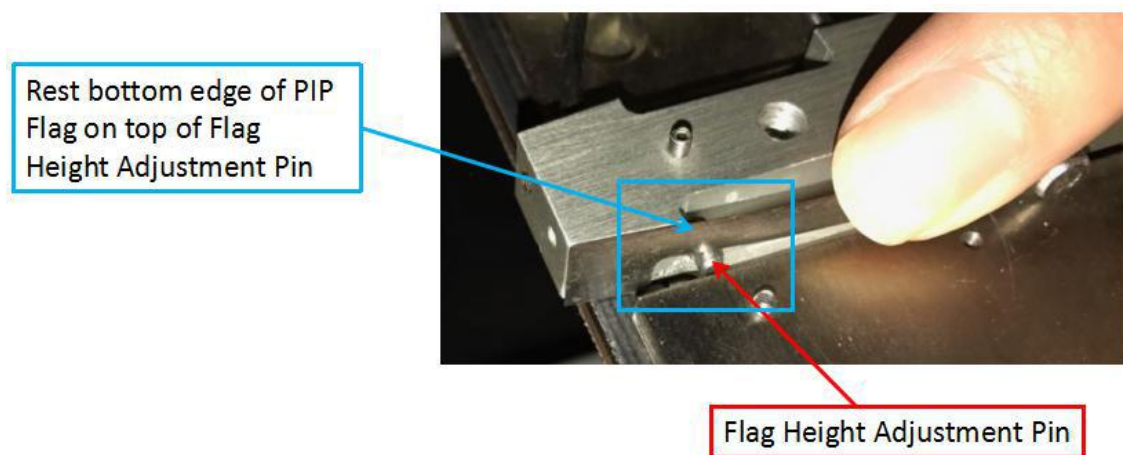

Figure 4 PIP Flag Height Positioning
7. Gently slide the flag height adjustment pin towards outer direction. Position bottom edge of PIP Flag and rest on top of the dowel Pin. May refer to below Figure 4.